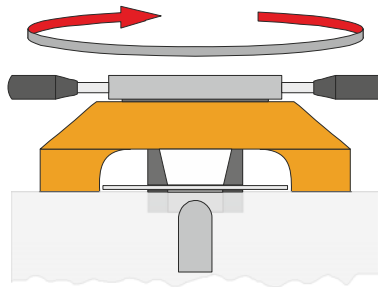

Figure 5. Clamping the setting sheet
3. Place setting sheet in die chamber and screw down die tightening ring until setting sheet is clamped firmly (see Figure 5).